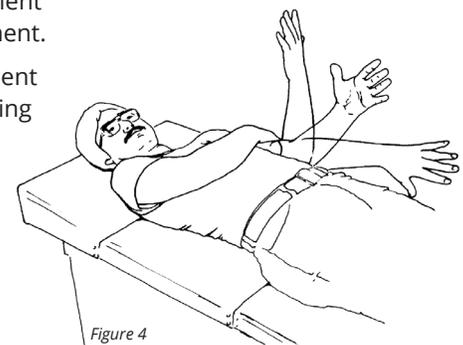

Figure 4
Step 5: Now, practice the biceps pattern with your amputated arm and concentrate on not moving your shoulder. Start with your shoulder and arm relaxed at your side and your hand over the biceps muscle (Figure 4). Without moving the shoulder, contract the biceps while imagining the elbow bending and the palm turning up. Feel the contraction with your hand. Relax completely. Repeat 10 times then rest. Repeat Step 5 a total of 3 times.